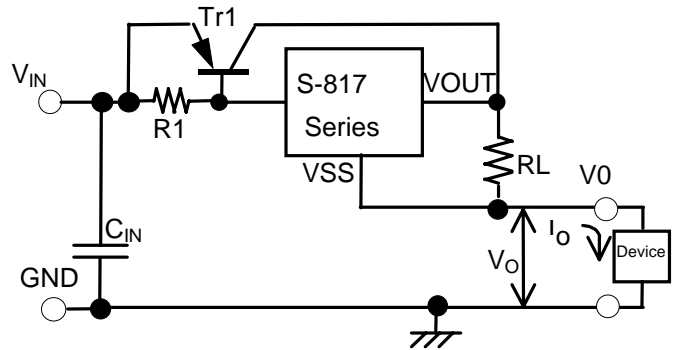

Figure 9 Constant Current Circuit
The S-817 Series can be configured as a constant current circuit. See Figure 9. Constant amperage  $I_O$  is calculated using the following equation
Please note that it is impossible to set constant amperage  $I_O$  in case of circuit (1) of Figure 9 to the value exceeding the drive ability of the S-817.
However, circuit (2) of Figure 9 is an example to set constant amperage to the value exceeding the drive ability of the S-817. Circuit (2) incorporates a current boosting circuit. The maximum input voltage of the constant current circuit is the value obtained by adding 10 V to voltage  $V_O$  of the device. It is not recommended to attach a capacitor between the S-817 power source  $V_{IN}$  and  $V_{SS}$  pins or between output  $V_{OUT}$  and  $V_{SS}$  pins because rush current flows at powering on. An example of input voltage between  $V_{IN}$  and  $V_O$  in circuit (2) vs.  $I_O$  current characteristics